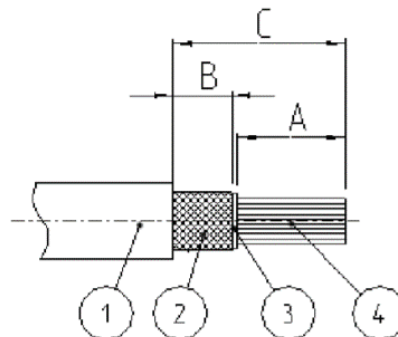

Figure 5: cutting cable to length
Step 2/步骤二 Strip and remove outer sheath, screening braid (if present screening foil), inner sheath and conductor from the end as shown in figure 5.
如图5所示, 切开并去除外绝缘皮, 屏蔽编织物 (如果存在屏蔽箔), 内绝缘皮和导体。